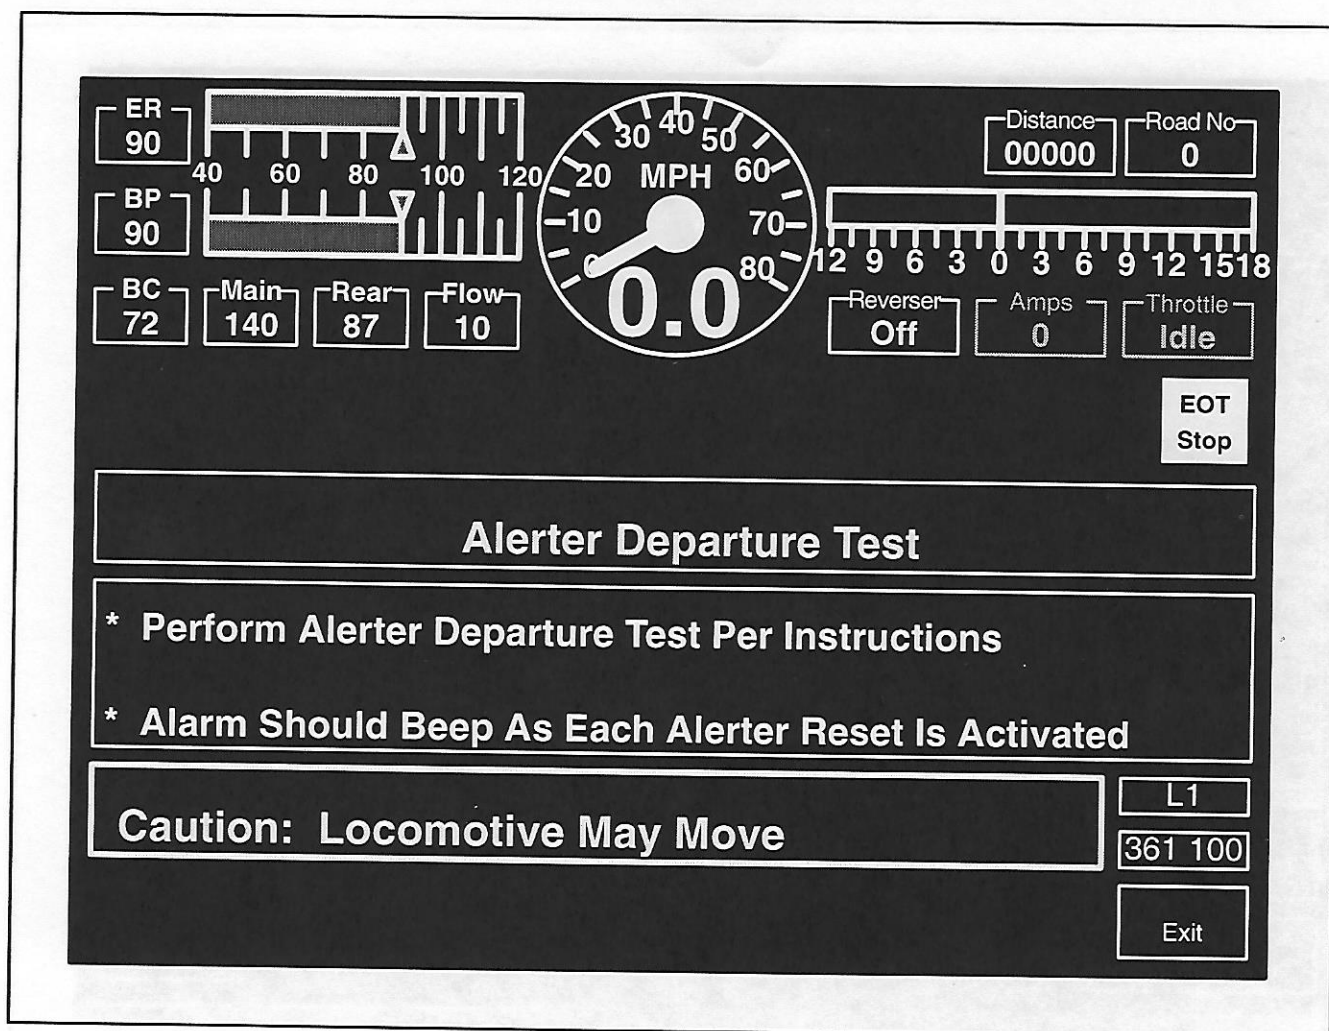

FIG. 48. ALERTER DEPARTURE TEST SCREEN (361 100). E-43061.
- b. **Screen 361 100** (Alerter Departure Test) will appear (Fig. 48). Follow instructions listed on the screen.